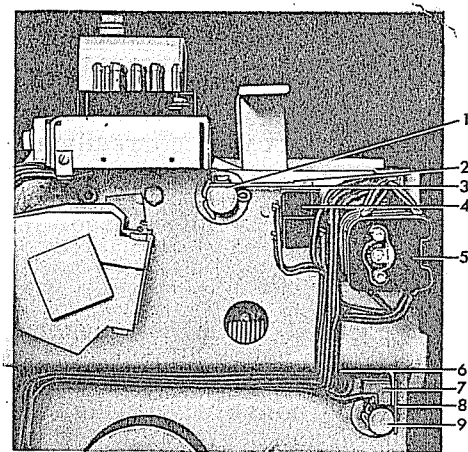

Figure 12. (8034474) Positive Interlock Switch
Refer to Figure 12. With the positive interlock in the reset, or normal position the clearance between the interlock switch arm (2) and the switch mounting plate (3) should be $1/32"$ or less. This can be adjusted by bending the switch arm.